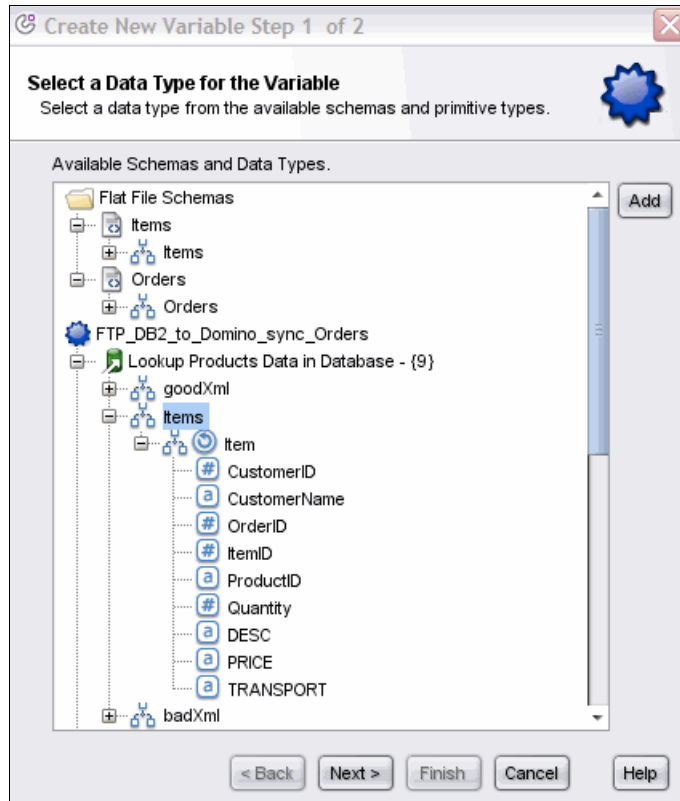

Figure 12-56 Creating itemsFound variable
2. Select the **Items** structure under Lookup Products Data in Database node (see Figure 12-56 on page 500). Click **Next**, and name it itemsFound, and then click **Finish**.